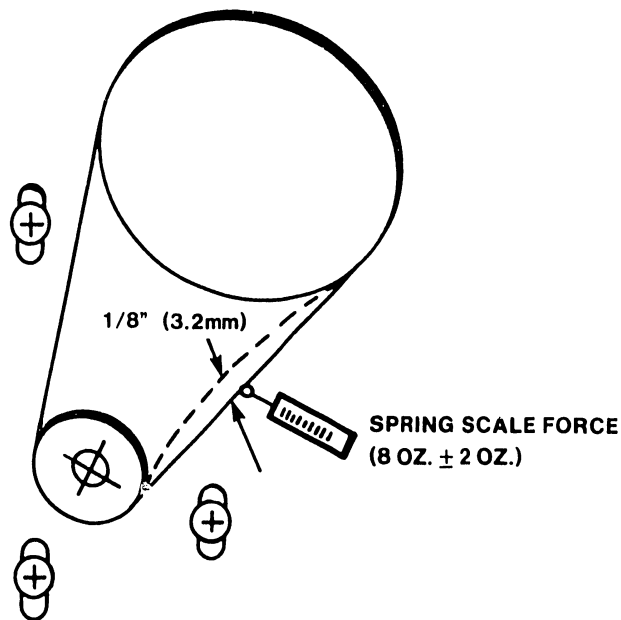

Figure 5-5 Paper Drive Belt Tension
- b. Using a spring gauge and scale, deflect the middle of the belt  $1/8''$  (3.2mm). See Figure 5-5. The gauge should read 8 oz.  $\pm$  2 oz. If the measurement is not within specifications, perform the adjustment in Paragraph 5.3.9.
- a. Using a screwdriver, slightly loosen the three motor mounting screws shown in Figure 5-5.
- b. Using a spring gauge, press the center of the drive belt downward using a force of 16 oz.  $\pm$  2 oz. See Figure 5-5.